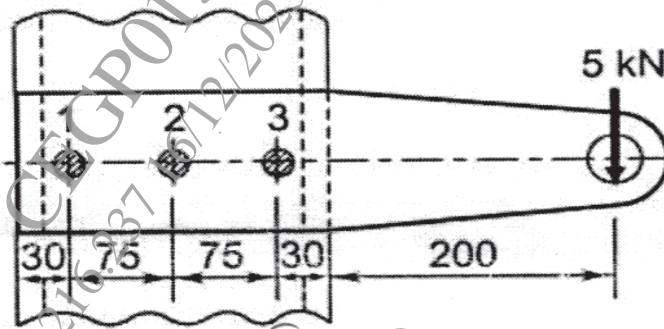

Fig. 2
- b) A steel plate subjected to a force of 5 kN and fixed to a channel by means of three identical bolts is shown in Fig2. The bolts are made from plain carbon steel 45C8 ($S_y = 380 \text{ N/mm}^2$) and the factor of safety is 3. Specify the size of bolts. [12]